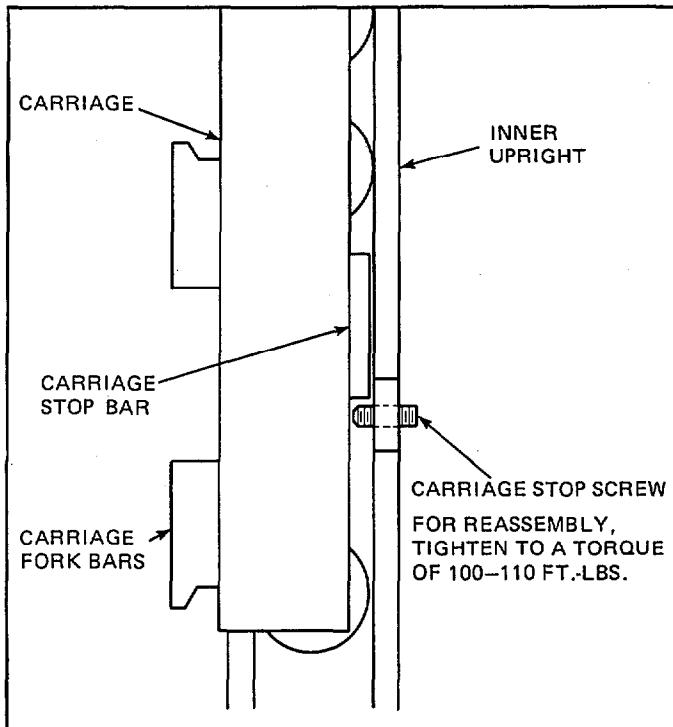

Figure 23. Carriage Stop Screw Assembly
1. Lift the carriage to gain access to the carriage stop screws on the inner upright. See Figure 23. Screw in the stop screws to clear the stop bar on the carriage.
- Thread in the carriage stop screw assemblies. See Figure 23. Tighten to a torque of 100–110 ft.-lbs.
3. Move the carriage towards the top of the mast to gain access to the carriage stop screw. See Figure 23. Use an allen wrench to back the screw out enough to clear the stop bar on the carriage.